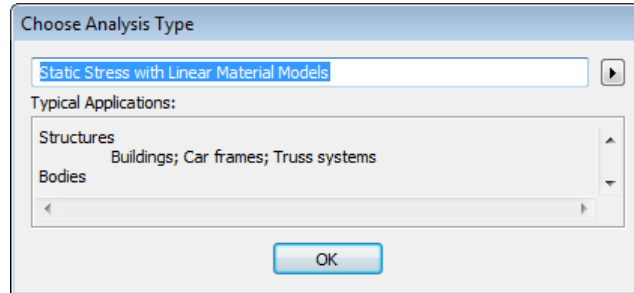

Figure 3-32 The **Choose Analysis Type** dialog box
12. Choose the **Yes** button from the **Surface Splitting** dialog box; the **Choose Analysis Type** dialog box is displayed with the **Stress with Linear Material Models** analysis type selected by default, as shown in Figure 3-32.